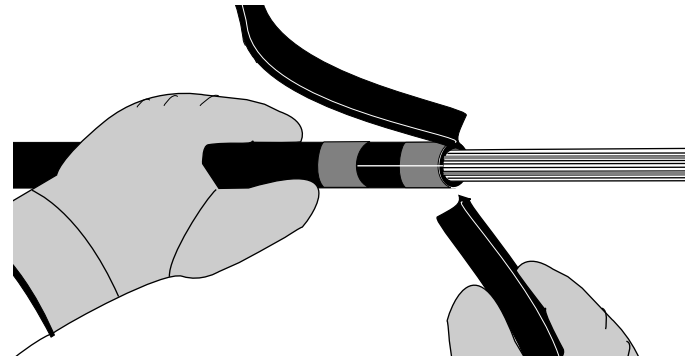

Figure 22
**6.14** Break off the split outer sheath and armor at the Position 1 ring cut (Figure 22).